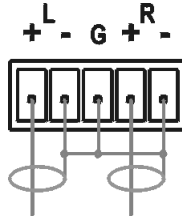

Figure 5: Wiring an Unbalanced Stereo Audio Output
- An unbalanced stereo audio input (see Figure 5)
Figure 5 illustrates how to wire an unbalanced acceptor to the balanced output of the unit.